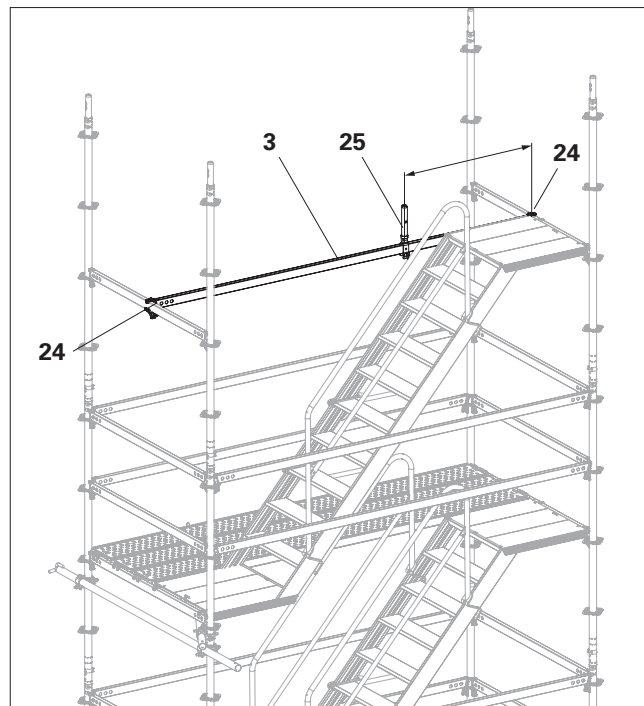

Fig. A5.02
7. Fit a UH-Spigot-2 (**25**) onto the horizontal ledger at a distance of 1 m. (Fig. A5.02)